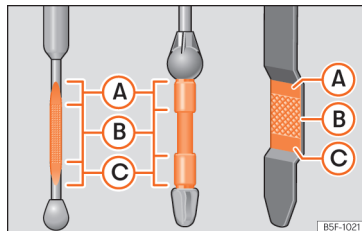

Fig. 190 Engine oil dipstick.
- Then pull it out once more and check the oil level **»»** Fig. 190. Top up with engine oil if necessary.
- When the oil level reaches at least zone »» **Fig. 190 (B)**, unscrew the engine oil filler cap carefully »» **ⓘ**.
If the oil level is above area »» **Fig. 190 (A)**, do not start the engine. This could result in damage to the engine and catalytic converter. Contact a specialised workshop.
The oil level must never be above zone »» **Fig. 190 (A)**. Otherwise oil can be drawn in through the crankcase breather and leak into the atmosphere via the exhaust system.